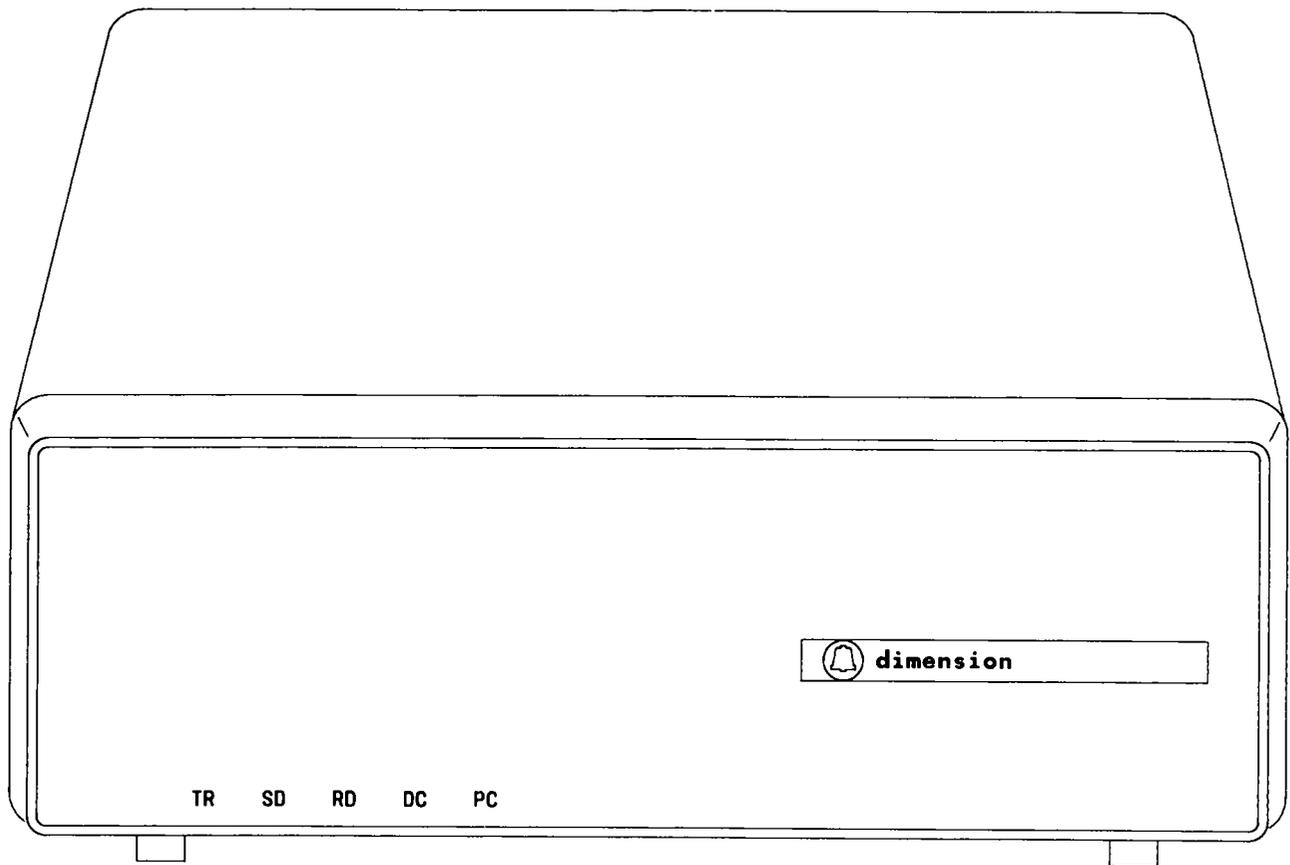

Fig. 1—Peripheral Interface Circuit
1.01 This section furnishes description, installation, operation, and maintenance information for the Peripheral Interface Circuit (PIC) (Fig. 1).
**2.07** There are five lamps (LEDs [light emitting diodes]) mounted on the controller board. These lamps are visible at the front panel on the PIC (Fig. 1).
- (e) DS5 (**PC**, peripheral circuit) is a system "heartbeat." During normal unit operation, this lamp should be flashing at a frequency of 0.5 Hz if the HN9B (MD) or HN10B controller